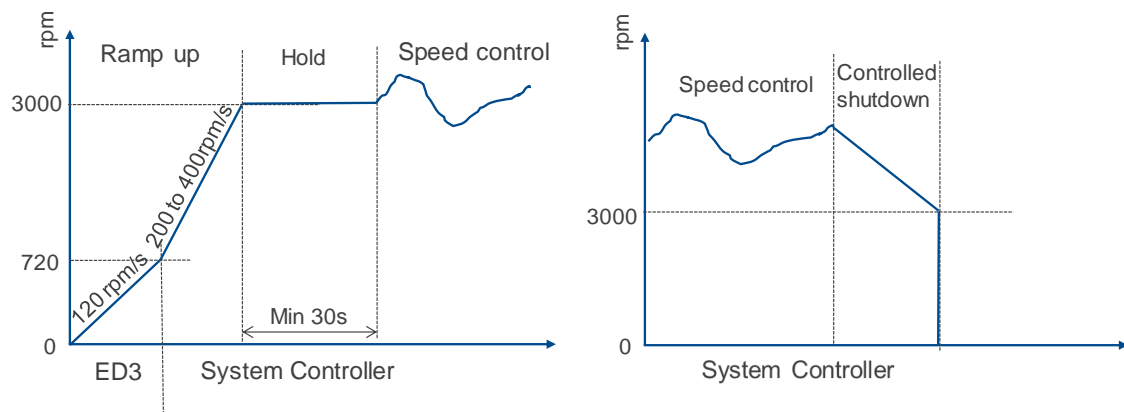

Figure 8: Ramp up and controlled shutdown
- At start-up the system should be able to bring the compressor to a point inside the envelope as fast as possible and to keep the compressor running there. Running outside the envelope is not allowed. Emerson's recommendation is to start with a speed of 3000 rpm and to freeze the speed for minimum 30 seconds or longer until the system is in stable operation – see **Figure 8 "Ramp up"**.
- To stop the compressor, reduce the speed to 3000 rpm then stop the compressor – see **Figure 8 "Controlled shutdown"**.